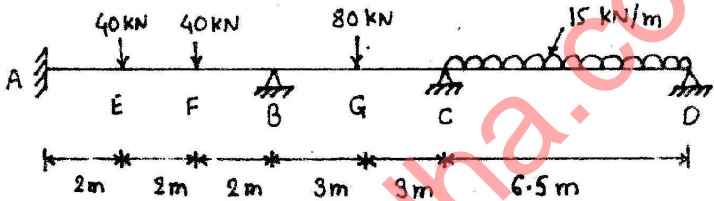

Figure No. 4
7. Design a continuous beam as shown in Figure No. 4. The load factor is 1.7 and the shape factor is 1.13. Uniform section is provided for the whole span of the beam.